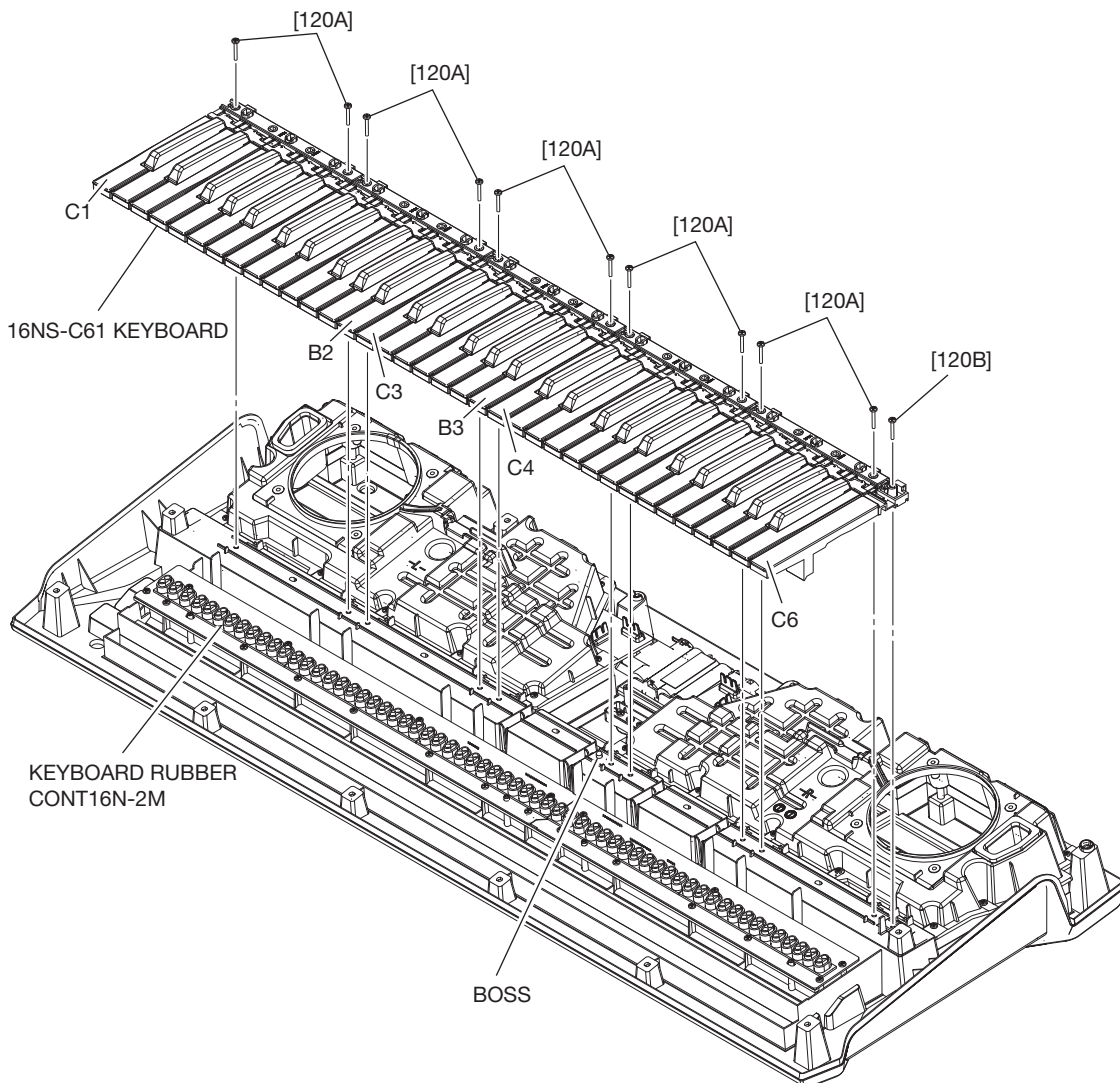

Fig.1
3. Flip over the lower case assembly, and remove the battery cover assembly. (Fig.1)
1. The white and black keys are grouped in single octave sets starting from the left side and consist of a total of five sets. Only the C6 white key, unlike the other keys, is not included in a set. (Fig.1)
2. To remove a set, remove the 2 each screws marked [120A]. The white and black keys in the set can then be removed. (Fig.1)
3. To remove the white key C6, remove the screw marked [120B], unhook as described in previous procedure, and pull out toward you. (Fig.1)
* *To reassemble after all white and black keys have been removed, first, mount by aligning the C3 to B3 white and black keys with the boss, and then mount the remaining white and black keys. (Fig.1)*
1. Remove the white and black keys corresponding to the rubber contacts to be removed. (See Fig.1 and "●White keys and black keys")
2. Remove the respective rubber contacts. (Fig.1)
1. Remove the C1 to B3 white and black keys. (See Fig.1 and "●White keys and black keys")
1. Remove the C4 to C6 white and black keys. (See Fig.1 and "●White keys and black keys")